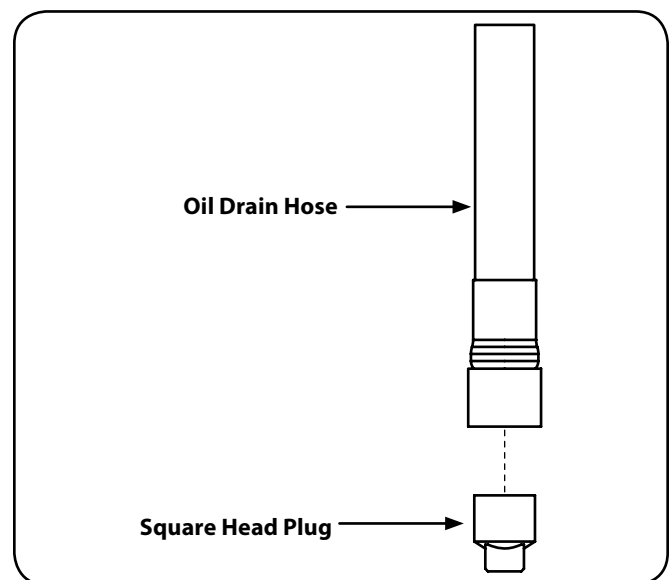

Figure 6-2
4. While holding the free end of the oil drain hose over the oil collection container, unscrew the square head hose plug from the end of the hose. See Figure 6-2. Drain the engine oil into the collection container.